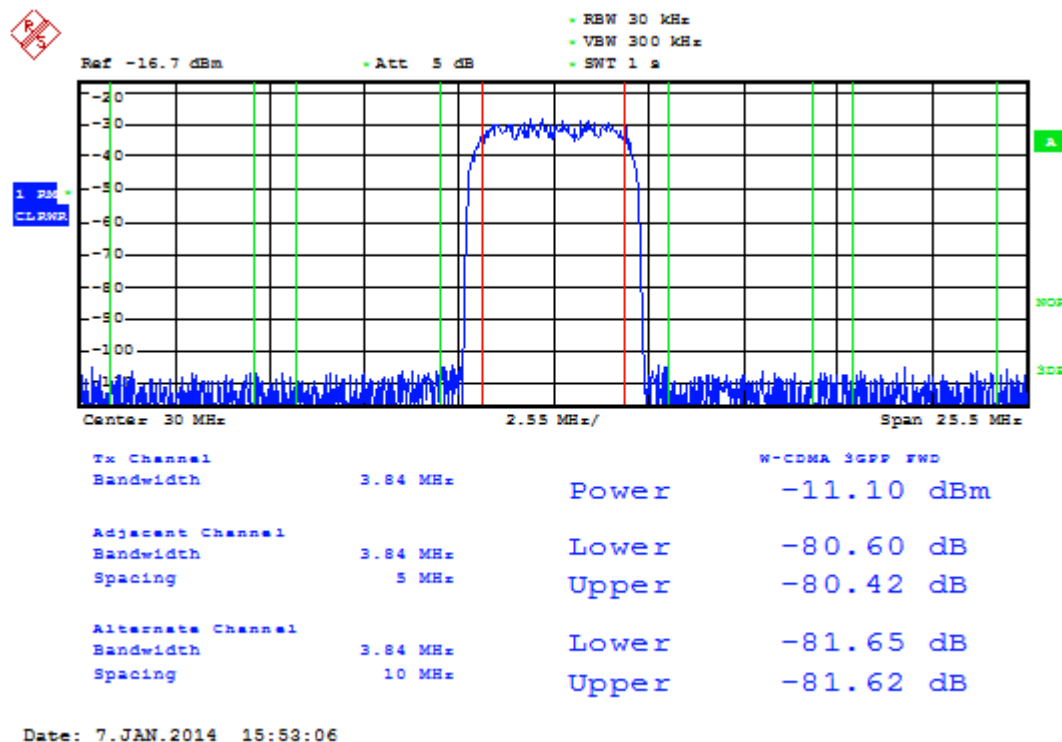

Figure 9. Spectrum Analyzer Example
9. You should now see a WCDMA signal centered at 30 MHz on the spectrum analyzer, as shown in Figure 9.